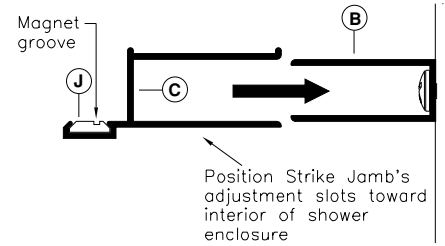

fig.2
5. Insert Magnet Strip (J) into the Strike Jamb's (C) magnet receiver (see fig.2). Magnet groove must be positioned as shown in order for door to close properly. At this time, determine from which side you wish the door to hinge (*left or right side, your choice*), then slide the Strike Jamb (C) over the strike side Wall Jamb. Adjustment slots must face toward interior of enclosure (see fig.2).